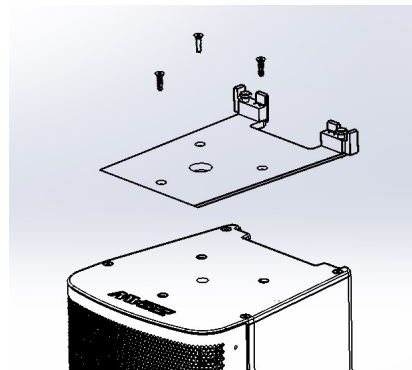

Figure 2 - Install Locking Plate
- Position Locking Plate over open holes, then use screws (B) to secure plate to the cabinet (Figure 2)